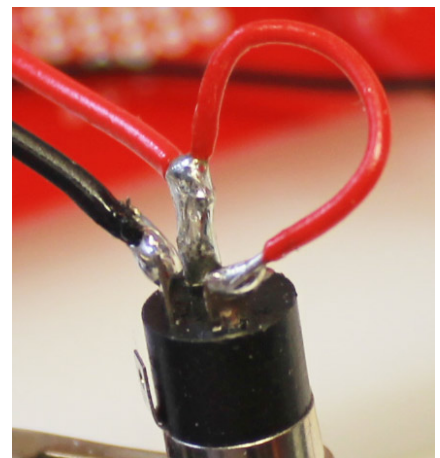

Figure 25
25. Find the black wire soldered to the bottom negative power bus, second hole from the right. Strip the other end. Attach to the center lug of the audio output jack and solder as seen in Figure 25.